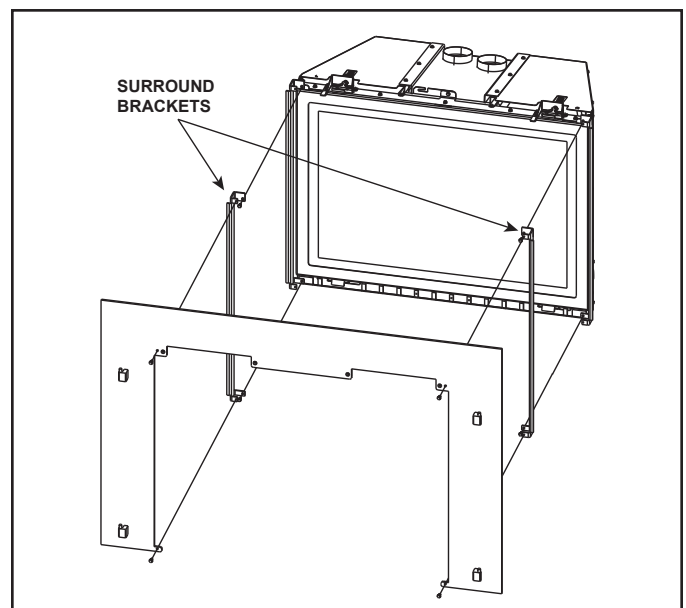

Figure 1
2. Mount the left and right surround brackets onto the appliance with four screws. See Figure 1.
3. Mount the surround to the surround brackets with four screws. See Figure 1.